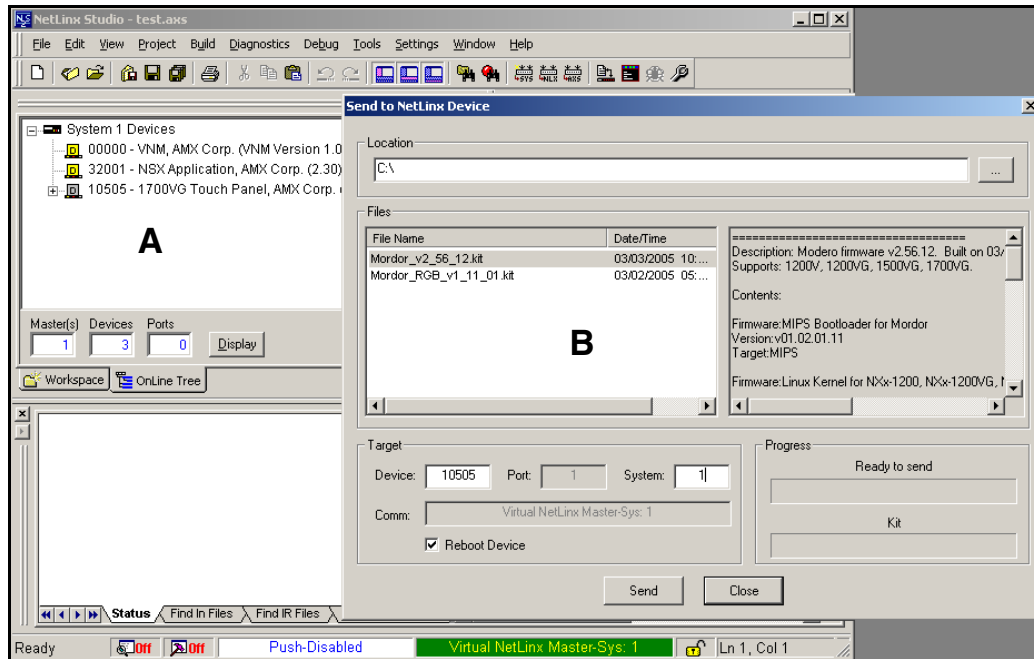

FIG. 74 Using USB for a Virtual Master transfer
7. From within Studio, select **Tools > Firmware Transfers > Send to NetLinx Device** from the Main menu to open the Send to NetLinx Device dialog (**B** in FIG. 74). Verify the panel's System and Device number values match those values listed within the System folder in the **OnLine Tree** tab of the Workspace window (**A** in FIG. 74).
11. Click **Send** to begin the transfer. The file transfer progress is indicated on the bottom-right of the dialog (**B** in FIG. 74).